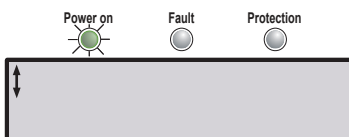

Figure 3: Top level
9. The green “Power on” LED should be lit and the LCD should appear as shown in Figure 3.